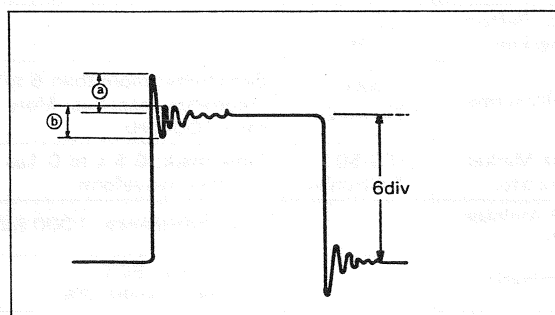

Fig. 7
3. Rotate SWEEP TIME/DIV control from 2  $\mu$ s to 0.2  $\mu$ s. Adjust TC704 (mid range) and VR703 (high range) for minimum overshoot (within 3%) and ringing (within 3%) at point (a) and (b) on waveform as shown in Fig. 7.